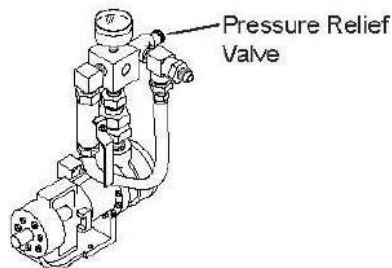

Fig. 8
10. The sprayer has an adjustable pressure relief valve (See Fig. 8) on the block assembly. You may need to vary the pressure according to the viscosity of the material you are using. Thinner liquids tend to need more pressure to assure a good coverage pattern. It is recommended to use a lower pressure setting for certain liquids, especially with higher solids, as high pressures can be problematic.